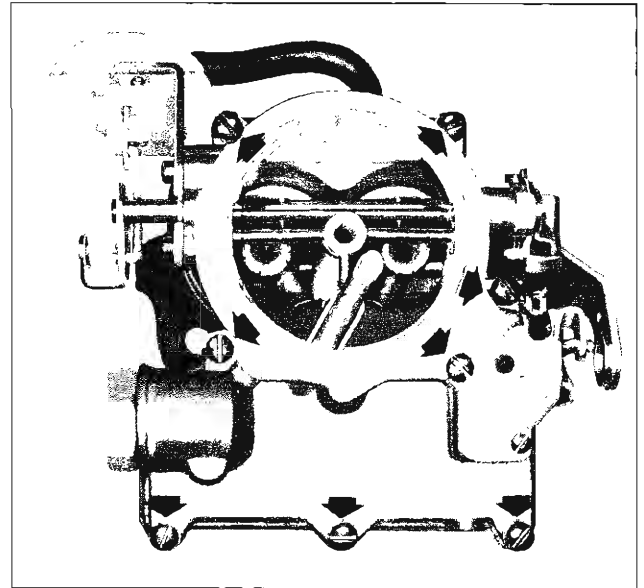

Fig. 32—Bowl Cover Removal
6. Remove 8 bowl cover screws (fig. 32) and lift cover from bowl.